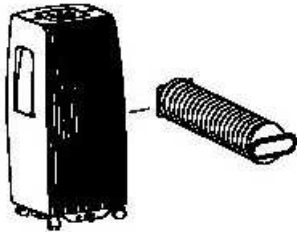

Fig.10
1. Extend the end of exhaust hose by couple inches and attach Adaptor B to hose. (Fig.10)